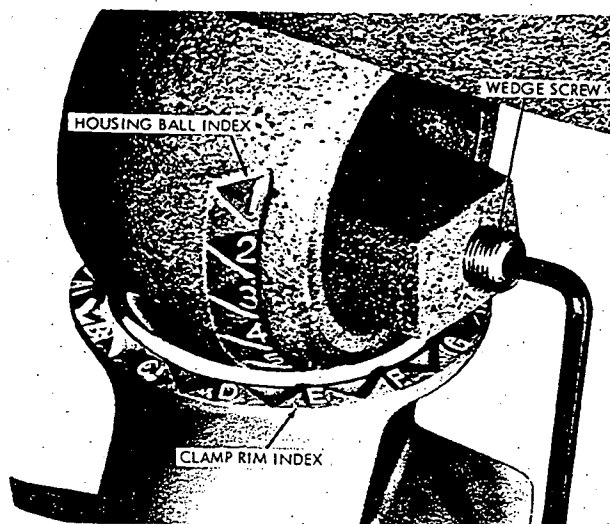

FIGURE 4. POSITIONING INDEXES
- 5-1. The positioning device of the mixer combines a vertical index on the ball of the housing and a horizontal index on the ram of the clamp socket. Mixing positions are established by referencing one index against the other. Figure 4 shows the indexes in D-5 position, a typical setting. To change the mixing position, loosen the wedge screw, adjust the mixer by its motor handle, and tighten the wedge screw. The wedge screw has a limited amount of travel before the wedge bottoms against the king bolt. If the wedge does eventually bottom, readjust the wedge assembly per 8-9, Step e.